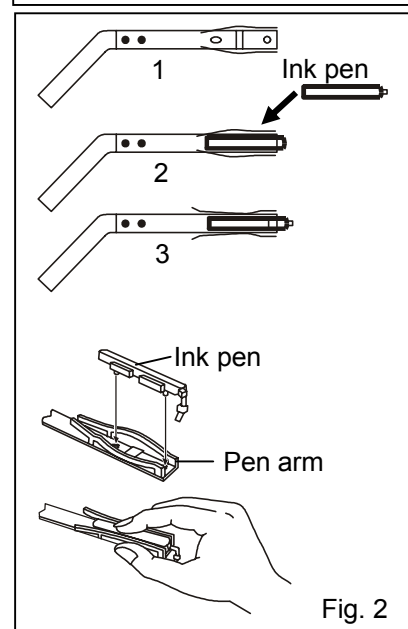

Fig. 2
NOTE: Loading a ink pen, turn the power OFF and then ON again to return to the normal mode. (Refer to Fig. 2 when loading a ink pen cartridge).
3. Press both sides of the pen arm as indicated by the arrows to open the head clamp at A and B. (See to Fig. 2 illustration 1)
4. Position the ink pen so that the guide pins fit into the guide holes on the pen arm. (See to Fig. 2 illustration 2)
5. Press the two sides of the head clamp as indicated by the arrows to secure the ink pen. (See to Fig. 2 illustration 3) From the side view, the cartridge should fit perfectly on the arm. Confirm that the pen arm is attached to both sides of the ink pen.